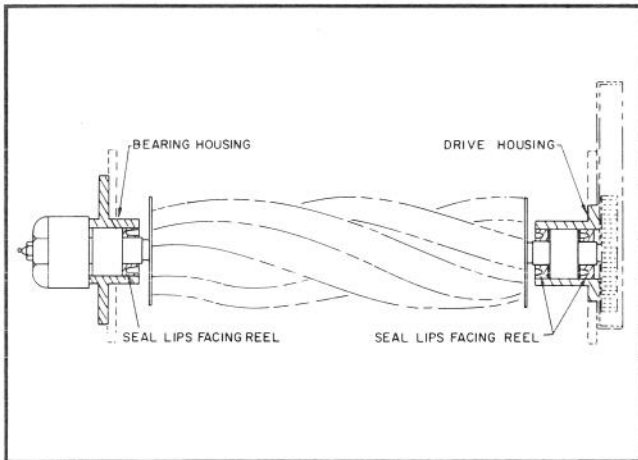

Figure 30
2. Assemble the outer seal (lip facing in to retain grease) into the drive housing using Loctite 242 retaining compound on the outer diameter. Apply a light coat of oil to the seal lips and insert the bearing assembly through the seal from the opposite side (Fig. 30).
3. Apply a light coating of oil to the inner seal lips and install (lip facing away from the bearing and toward the reel) in the housing. Install the retaining ring to secure the assembly in the housing (Fig. 30).
4. Apply a light coat of oil to the seal lips of the seal for the bearing housing and install (lip facing away from the bearing) over the bearing assembly (Fig. 30).